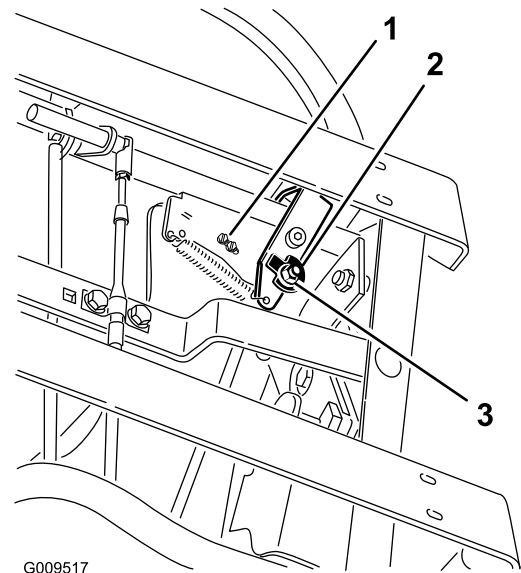
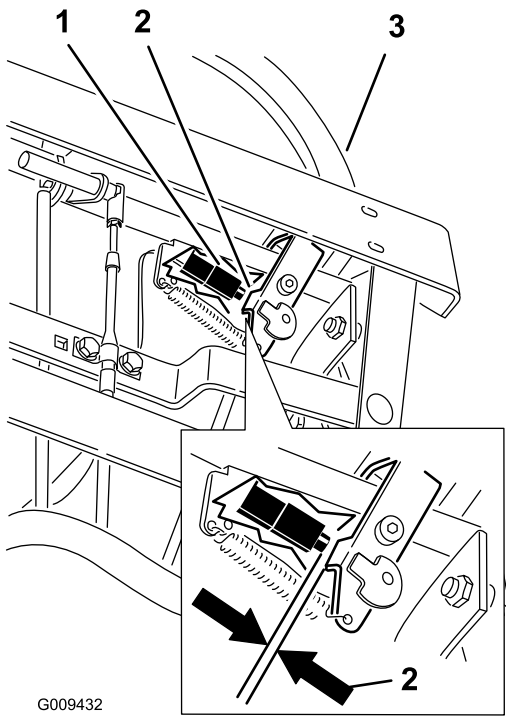

Figure 64
Figure 65
10. Check the gap between the control lever and switch as shown in Figure 65. The gap needs to be an 1/8 inch (3mm) with the right motion control lever in the neutral, unlocked position.
11. If needed, loosen the screws holding the switch and adjust the switch (Figure 64 and Figure 65).
7. Loosen the nut and bolt holding the cam (Figure 64).